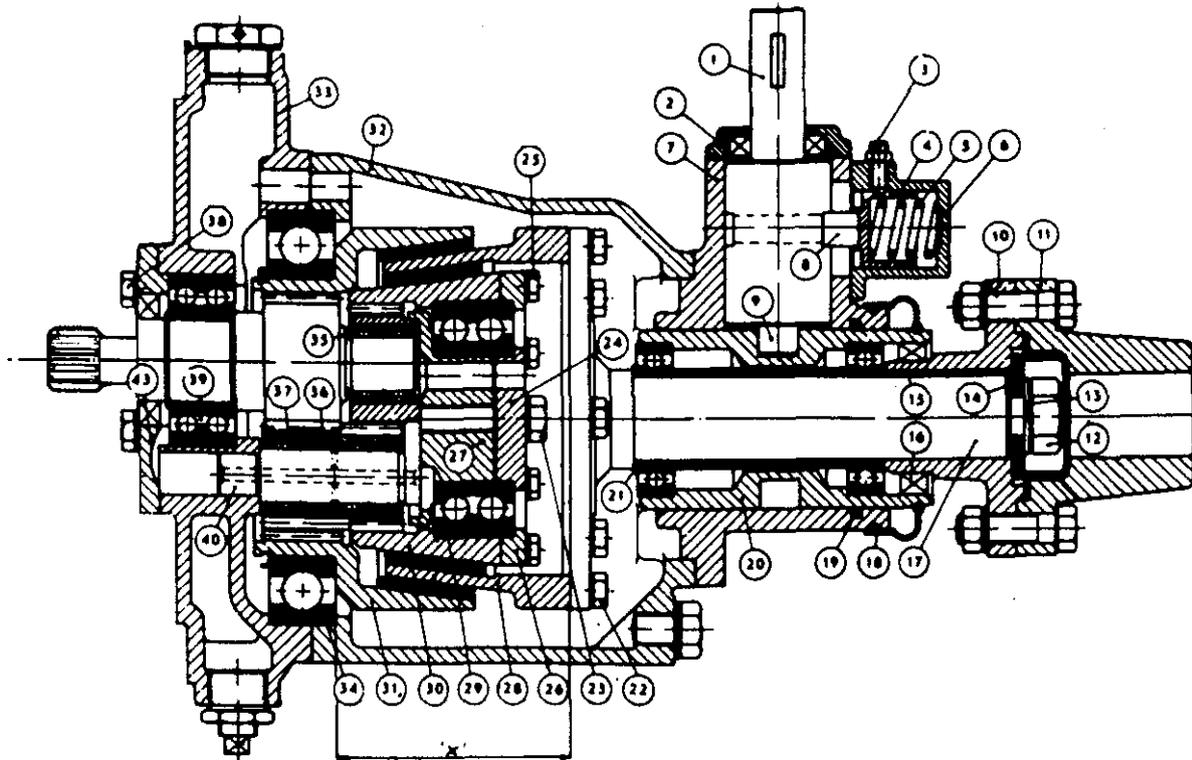

Fig. 2. Cross-section of reduction-reverse gear, ratio 1.9 : 1
The repair instructions refer to Fig. 2 for ratio 1.9 :1.
3. Remove the bolt (12) and pull off the coupling flange (10). Also lift off the rubber protector (18). The key (15) need not be removed.
4. Remove the reverse gear lever from the control shaft (1). Then remove the cover (2). Pull out the control shaft (1) and the eccentric stud (9) (note the position of the stud which has marked sides).
5. Remove the bolts which secure the reverse gear housing (32) to the casing (33). Part the casing from the housing by means of light blows with a mallet.
6. Remove the bolts (22) and take out the shaft (17) with the sleeve (20).
8. Remove the bolts (23) and the washer (24). Place one of the bolts (23) in the center hole of the support bearing (27) and pull off the gear wheel (30). If the ball bearing (29) is to be removed from the gear wheel, remove the bolts (25) and the ring (26) after which the ball bearing is pressed out.
9. Lift out the cone (28).
10. Remove the gear wheel (31) with bearing (34) from the housing (33). For the reduction-reverse gear with ratio 1.9 :1, removing is made easier by tapping carefully on the bevelled side of the gear wheel (31),
11. See Fig. 2. Remove the bolts (38). The flange (44) need not be removed from the shaft. Press out the shaft (42) together with the cover (43) and the ball bearing. Pres-
12. Drive out the shaft (40) with the gearwheel (37) and the bearing (36). With regard to taking care of the bearings, see point 11.
13. See Fig. 2. Removal of flange (44) and bearing (3) from the shaft (42) should be done in a press after the locking flange has been removed. Pressure must not be applied to the outer circumference of the flange (44).
See Fig. 2. Friction lining wear on the gear wheel (31), which is most subjected to wear, is compensated for by increasing the thickness of the shim (21) as follows: Place the cone (28) in the gear wheel (31) and measure the distance "X" shown in Fig. 4. The amount by which the measurement "X" is less than 85mm (3.35") determines how much the thickness of the shim (21) shall be increased. For example, if the distance measures 83mm (3.29"), then a 2mm (0.08") thick shim should be fitted. If the wear is so great that the measurement "X" is less than 81mm (3.19"), then the worn parts must be replaced. The friction linings in the gear wheel and cone are not interchangeable.
1. Fit the bearing (36) and the gear wheel (37), also press the shaft into the housing.
2. Fit the gear wheel (31) with bearing (34) into the housing (33).
3. See Fig. 2. Fit together the shaft (42), bearing (39), cover (43) and the flange (44) into one unit. The ball bearing (39) is fitted so that the recess on one side of the Searing (Fig.7) faces opposite the teeth on the shaft (42). If the sealing ring in the cover (43) shows the least sign of damage or if it has been removed from the cover, it should be replaced by a new one. A protecting sleeve should be used to prevent damage to the sealing ring by the passage of the keyway in the shaft (42).
4. See Fig. 2. Fit the shaft unit into the housing (33). Take care to ensure that the gear wheel on the shaft (42) meshes with both gear wheels (37 and 31).
5. See Fig. 2. Fit the needle bearing (35).
6. Fit the cone (28) in the gear wheel (31).
7. Fit together the bearing support (27), bearing support (27), bearing (29), cover (24) and the gear wheel (30) into one unit and and tighten on the cover (24). The ball bearing is fitted so that the recess one side of the bearing faces away from the teeth on the gear wheel (30). The bearing support (27) and the washer are fitted so that the middle through hole comes upwards.
8. Place the unit in the cone (28).
9. Fit the shaft (17) and the sleeve (20) onto the cone (28).
10. Fit the reverse gear housing (32) over the assembled parts and tighten it onto the housing (33).
11. Fit the rubber protector (18) and the coupling flange (10). Before fitting check that the bolt (12) is well tightened and that the key (15) is properly bedded down in its keyway in the shaft (17).
12. Fit the flange (9), shaft (1), locking plunger (8), sleeve (4), spring (5) and the plunger housing (6). Oil the parts liberally before fitting. The flange (9) is fitted so that its sides marked "O" follow the longitudinal direction of the engine. Fit the reverse gear lever and check the movements of the lever from neutral to "Ahead" and "Astern" positions respectively, which should be equi-distant. If the movement in one direction is appreciably more than in the other direction, this is to be adjusted by turning the flange (9). This is shaped such that the center of the rectangular portion is offset in relation to the center of the cylindrical portion (guide). If the flange is fitted so that the projecting side faces forwards, the movement of the reverse gear lever from the "Ahead" position to "Neutral" is decreased. If the flange is turned half a turn so that the projecting side faces aft, the movement of the lever from "Neutral" to the "Astern" position is decreased.
13. Fit the reverse gear to the engine. Regarding the reverse gear with ratio 1.9 :1, fitting is facilitated if the rubber bushings on the driving studs (45) as well as the holes for these in the engine flywheel, are carefully coated with talc.